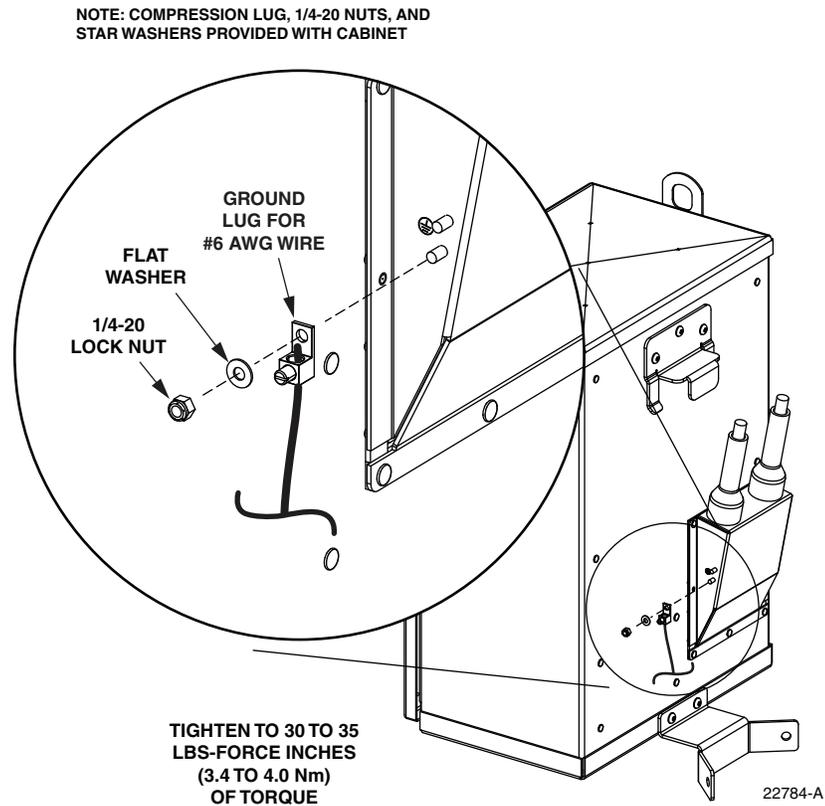

Figure 7. Grounding Cable Connection To Pole-Mount Cabinet
14. Remove the ground lug, flat washer, and 1/4-20 locknut from the grounding stud at the rear of the cabinet as shown in Figure 7.